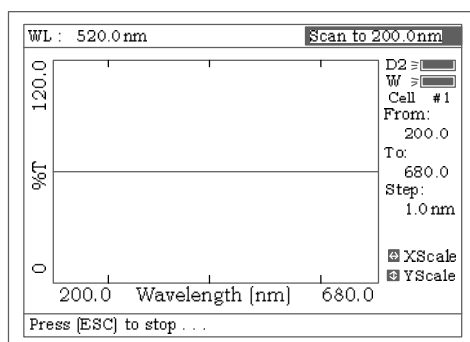

Fig 44
3. Push the blank cuvette into the reference light path and main light path, press **【0Abs/100%T】** to scan the base line (Fig 44). Press the key **【ESC/STOP】** to stop scanning;